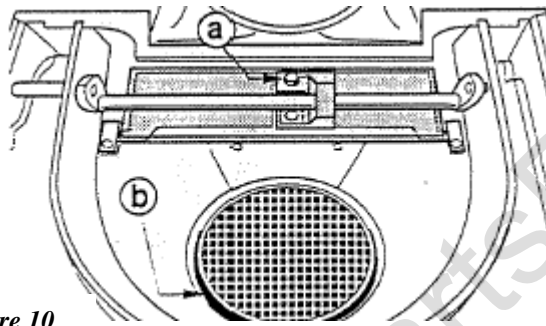

Figure 10
10. Check the damper rod/damper plate action to be sure that the damper seals tightly in the closed position. Rotate the adjustment bolt (**a in Fig. 10**), clockwise to improve the seal against the gasket.
11. Inspect the catalytic element and carefully clean any debris from it using a vacuum. Be sure the interam gasket (**b in Fig 10**) is properly positioned around the element. Replace the refractory package.